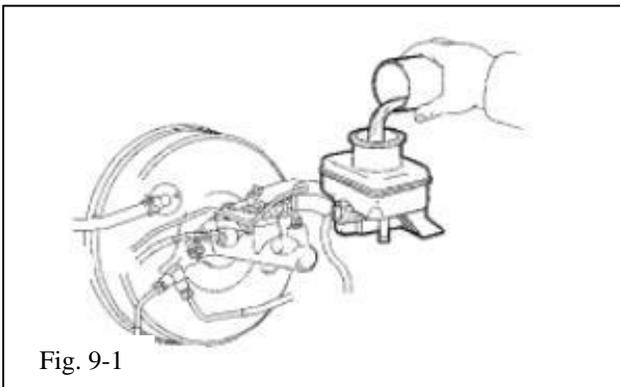

Fig. 9-1
- (b) Fill the reservoir with brake fluid Fluid: SAE J1703 or FMVSS No. 116 DOT3 (Fig. 9-1). Do not overfill.